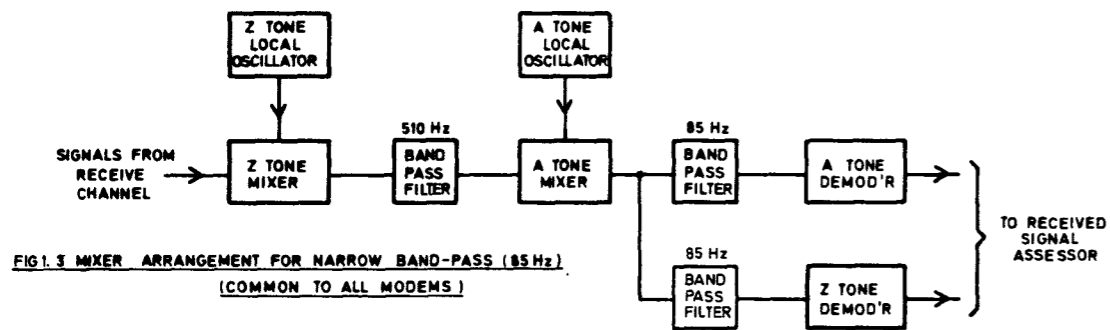

FIG 1.3 MIXER ARRANGEMENT FOR NARROW BAND-PASS (85 Hz)
4. Received signals in 2-tone, voice frequency form are applied to a demodulator which operates as follows (see Figure 1.2). The incoming signals are fed to a pair of mixers (one A-tone and one for Z-tone). The mixer outputs are fed via band-pass filters to a pair of detectors which provide suitable A-tone and Z-tone signals. The band-pass filters are provided to allow for discrimination of incoming signals according to the reception conditions; three values of discrimination are provided, Wide, Medium and Narrow, corresponding to pass-bands of 510, 170 and 85Hz respectively. The Narrow pass-band is selected only in particular circumstances (see Table 2.1) and in these circumstances a double mixing system is in operation (Figure 1.3). The A-tone and Z-tone signals from the demodulators are combined in the Received Signal Assessor and applied to the Received Signal Output Gate.